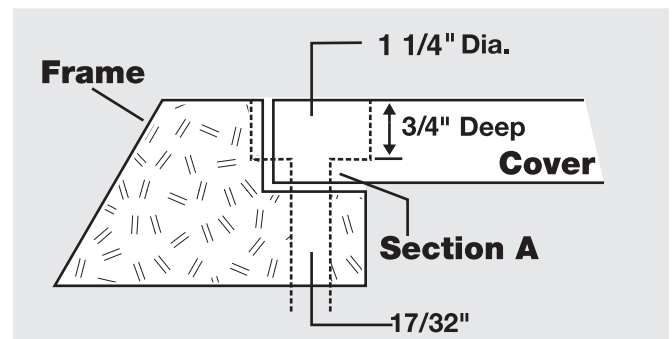

Figure 3
**STEP 3:** Counterbore 1-1/4" diameter to 3/4" depth. (See Figure 3)
When drilling the counterbore, the bit must not go completely through the cover. Bolt seating area must be on the cover (See Section A, Figure 3).